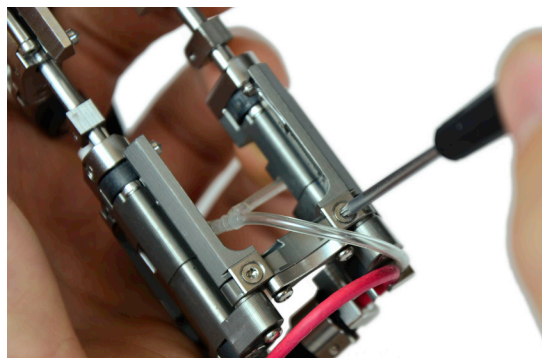
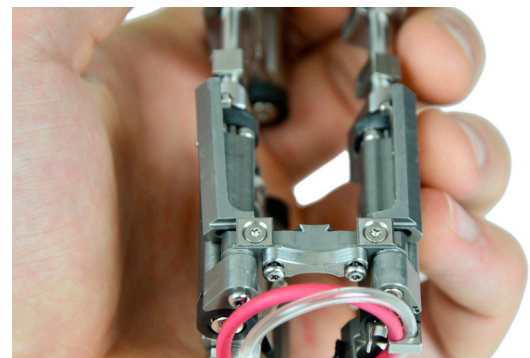

Figure 23
Figure 24
- c. Loosen probe holder adjustment screws (Figure 23) 1/8th turn to relieve clamp pressure. When the probe holder arms are free to move, slide arms apart (see Figure 24).